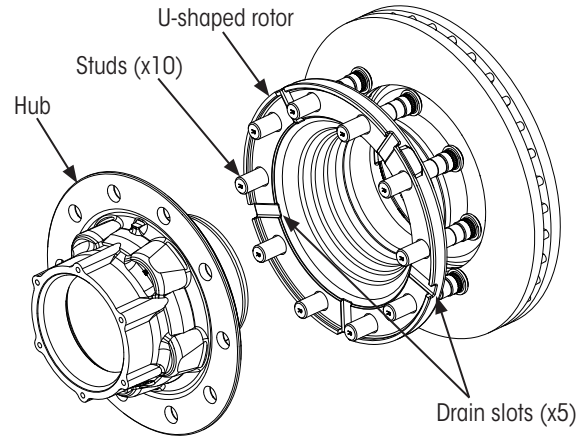
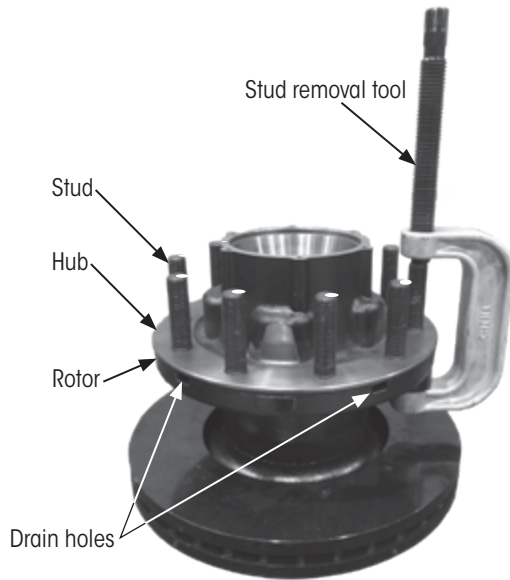
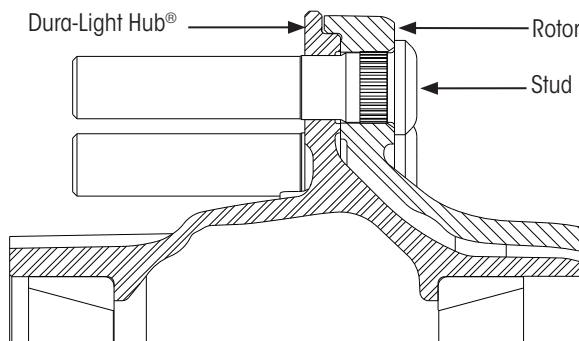
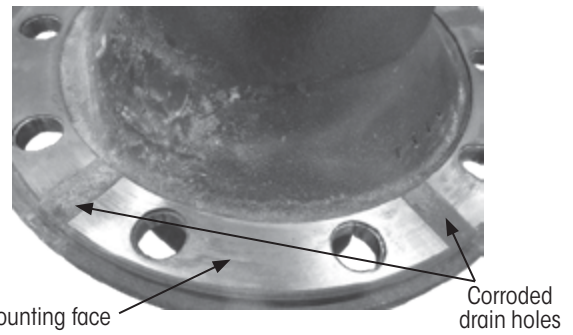

Figure 8: Hendrickson stud mounted hub & U-shaped rotor assembly
Figure 10: Pressing out old studs
Figure 11: Hub and rotor assembly
Figure 12: Drain hole corrosion on a used hub
This rotor to hub assembly is clamped together using studs which are press fit into the U-shaped rotor and hub (Figure 8 and Figure 11). These procedures apply to complete disassembly and reassembly when removed from the spindle.
3. Using a hydraulic press or stud removal tool (Figure 10), **press out** each stud. Once all the studs have been removed, the hub and rotor can be separated.
As shown in Figure 11, the hub and rotor are held together by the studs. The knurled base of the stud is press fit into the rotor, while the non-knurled portion is press fit into the Dura-Light Hub®.
If installing a used hub onto a new rotor, corrosion may exist on the used hub pilots and where the drain holes were located (Figure 8, Figure 10 and Figure 12). This corrosion needs to be thoroughly cleaned off with a wire brush or emery cloth before assembling the hub and rotor. It is also recommended to align the hub and rotor such that the drain slots on the rotor mounting face are located in the same position to the hub mounting face as in the original assembly (Figure 10).
**NOTICE** Ensure the hub seats flush to the rotor mounting face and pilots (Figure 11). If not correctly seated, the hub and rotor connection may loosen and cause damage to one or more wheel-end components.